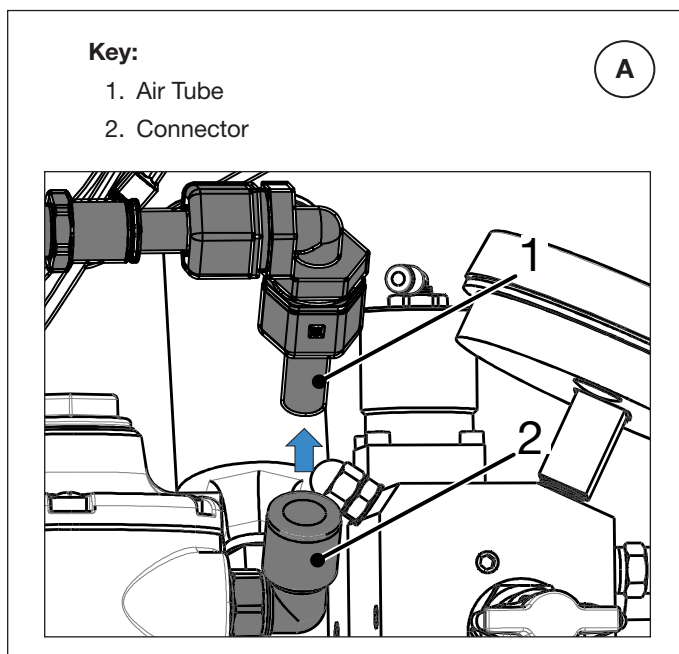
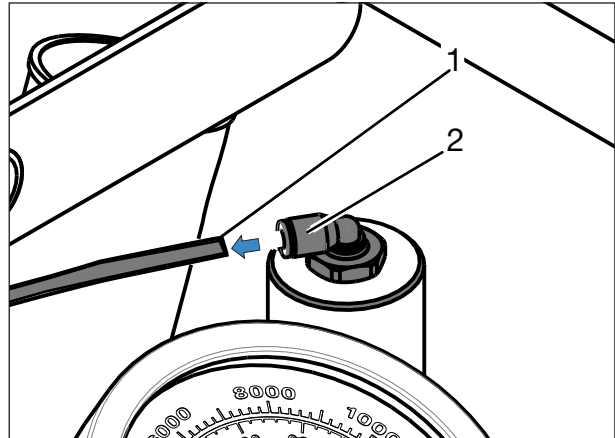

Figure 11: Disconnect Air Tube - Location A
Figure 12: Disconnect Air Tube - Location "B".
3. Disconnect pump air tubes at locations "A" and "B" as shown in Figure 11 and Figure 12.
13. Reconnect the pump air tubes. See Figure 11 and Figure 12.